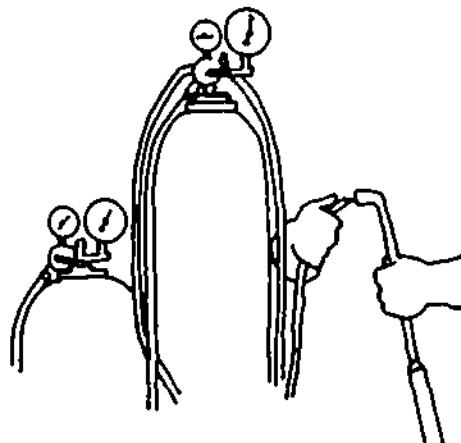

Figure 18-9. Connecting Hose
f) Open the needle valves of the torch. Connect the oxygen hose and crack the cylinder valves to blow out the interior of the torch, then close (Figure 18-9).